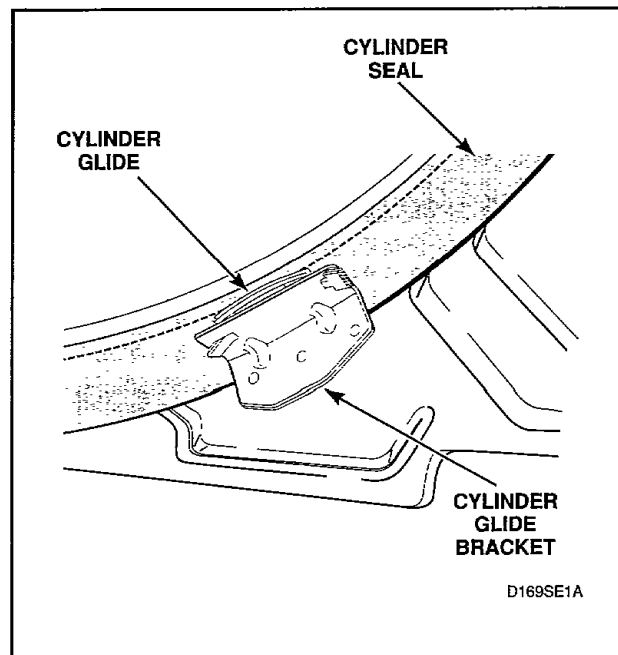

Figure 40
**NOTE:** When reassembling the front bulkhead to the cabinet, hold glides in position with finger tips on the edges of glides. Once bulkhead is in place, inspect the glide position with a mirror to insure the glides are aligned with the cylinder, making sure the tabs are visible, *Figure 40*.
### g. Cylinder glides and pads (Figure 40)
**NOTE:** When reassembling the front bulkhead to the cabinet, hold glides in position with finger tips on the edges of glides. Once bulkhead is in place, inspect the glide position with a mirror to ensure the glides are aligned with the cylinder, making sure the tabs are visible, *Figure 40*.